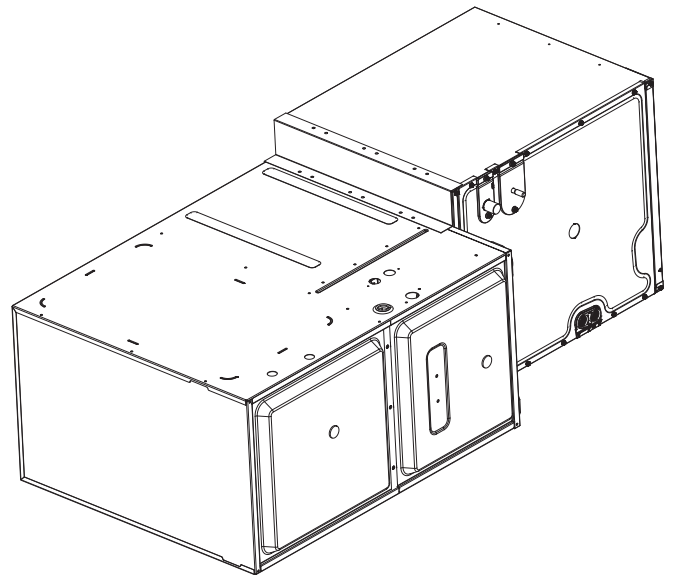

Figure 5
There is no conversion required to reverse from right to left application. Attach the duct flanges to the discharge side of the unit. If the coil and furnace combination are not similar in depth and width, use a field-supplied transition to center the furnace and coil openings (see figure 5).
1. Using the hardware and brackets provided, attach the coil to the furnace then attach the plenum to the coil (Figure 5). Using tape or mastic seal between the coil and furnace and the coil and plenum.